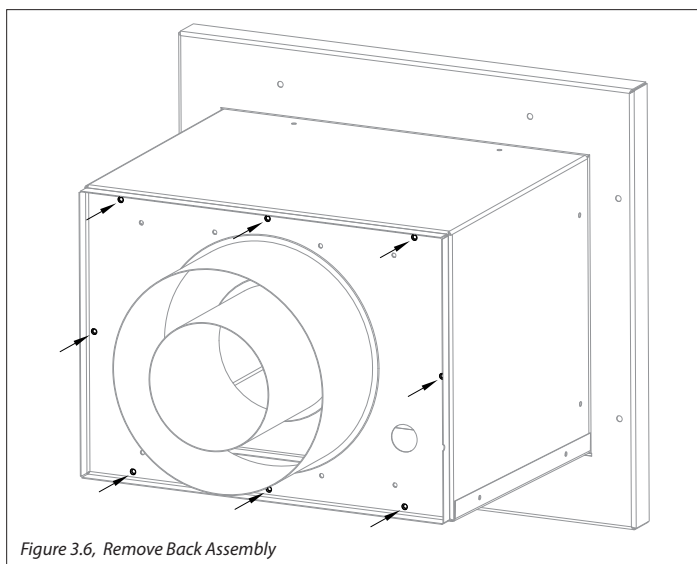

Figure 3.6, Remove Back Assembly
1. Remove the eight screws securing the back assembly to the cap. See Figure 3.6.